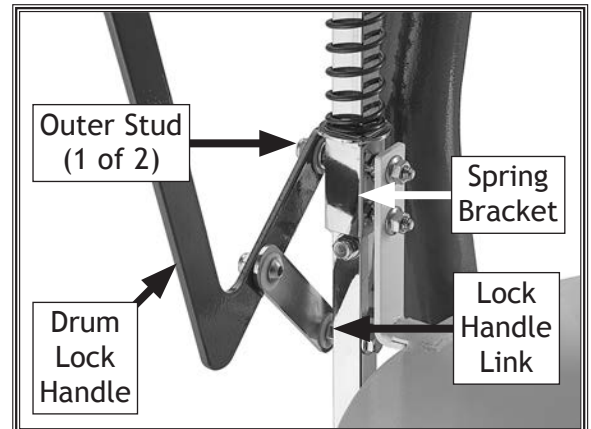

Figure 16. Lock handle attached to spring bracket and lock handle link.
11. Using fasteners attached to spring bracket, place upper end of drum lock handle over outer stud on spring bracket, then attach lock handle link to lower hole on lock handle (see **Figure 16**).